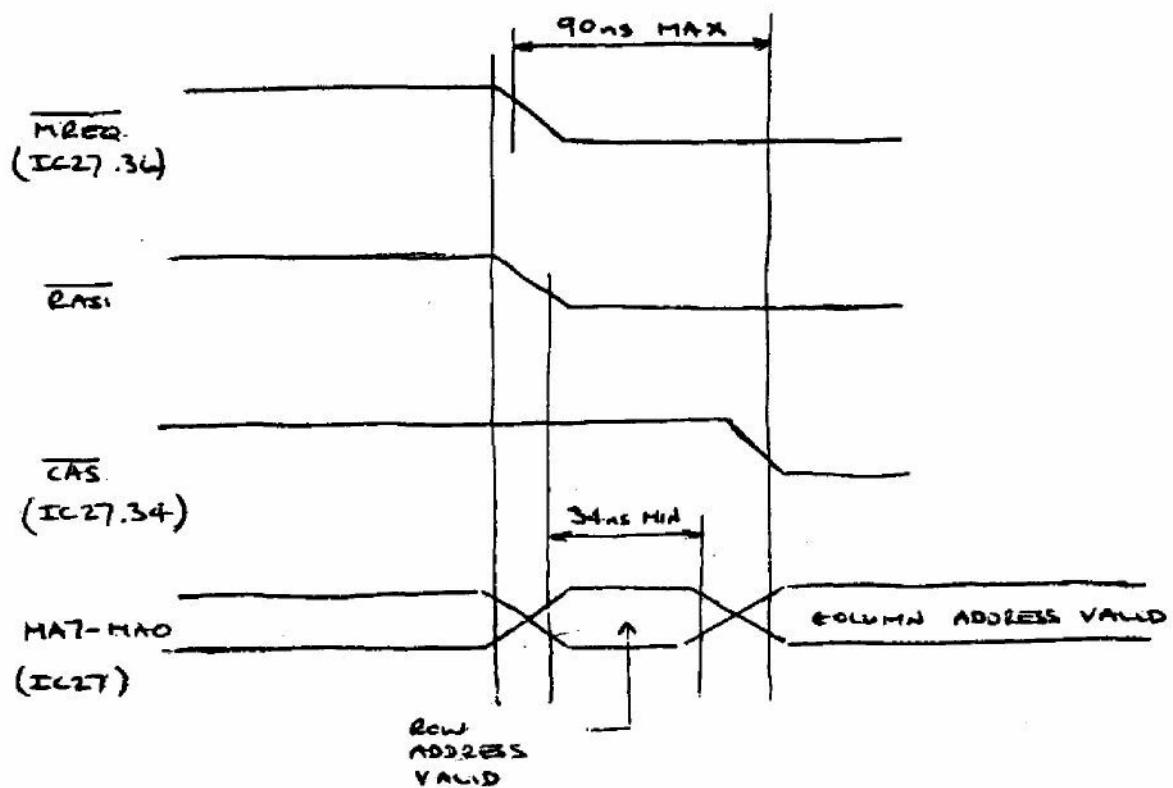

FIGURE 1.2 UNCONTENTED RAM RAS/CAS TIMING (READ CYCLE SHOWN)
- 4.12.5 Row/column address selection and RAS/CAS timing for the RAM is decoded in IC27 in conjunction with IC28 and the associated **discrete** components. A **theoretical** timing diagram illustrating the **RAS** /**CAS** waveforms is given in Figure 1.2 (A read operation is shown when the **WRL** line from the Z80 is high).